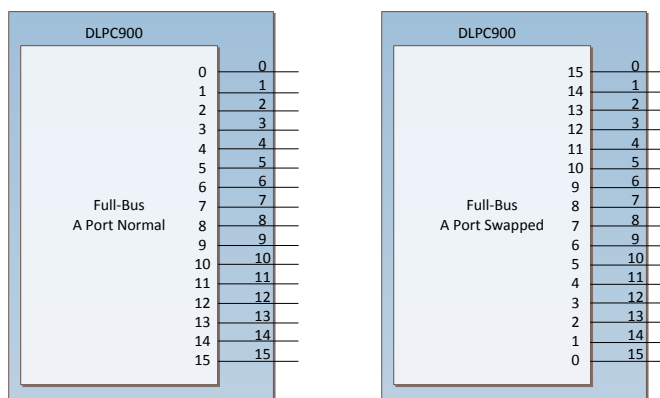

Figure 15. Controller to DMD Full-Bus Connections
- (4) The DLPC900 is a Full-Bus DMD signaling interface. Figure 15 shows the controller connections for this configuration.
- (5) The pulse duration minimum for any clock rate can be calculated using the following formulas.
Figure 15 shows the controller connections for full-bus normal or swapped. Refer to the *DLPC900 Programmer's Guide* (DLPU018) for details on how to select the bus swap settings to match the board layout connections.